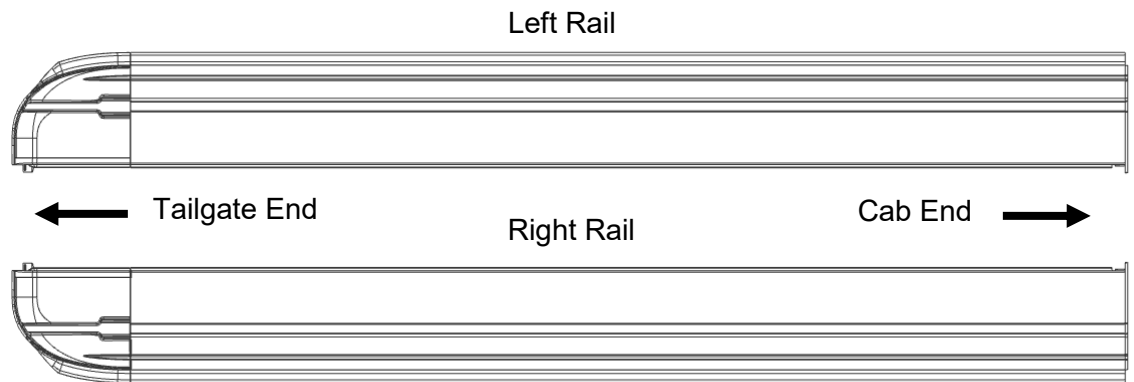

FIG. 4A
Next identify the left and right side rails (FIG 4A). The rail flange and foam towards the outside of the truck bed.
The between the rail dimension should match the chart to the right of FIG. 4A. Use the shims to achieve this measurement on the front clamp assembly and the tailgate end clamp assembly, take the Clamp Shims (3) and the Clamp Spacer (4) and fit them behind the Clamp Rail Grip (1) and up against the inner bed rail lip.